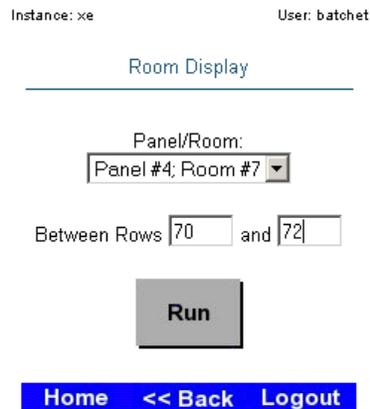

Figure 8-14 - Room Display Entry Screen
- C. Enter beginning row and ending row as shown in Figure 8-14.
- D. Press **Run** button as shown in Figure 8-14.